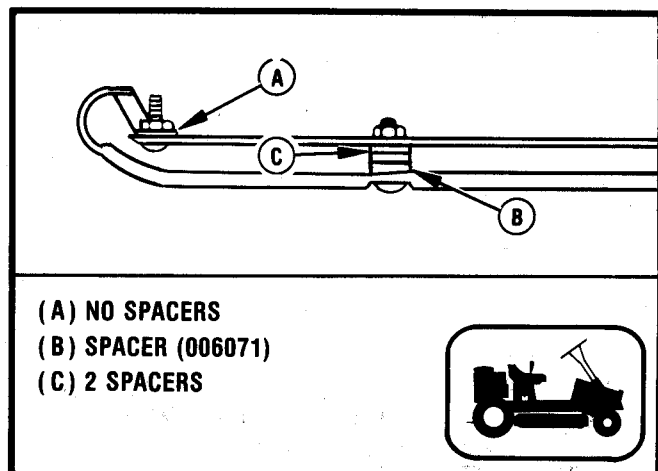

FIGURE 1-18C
- To obtain smoothest cutting in higher cutting height settings, the runners should be adjusted as shown in Figure 1-18C.